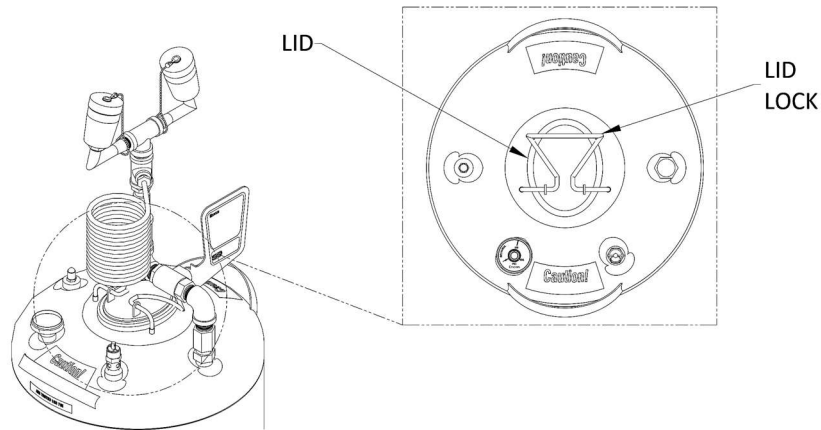

FIGURE 4
- E. Release lid lock to remove lid from vessel (Figure 4).